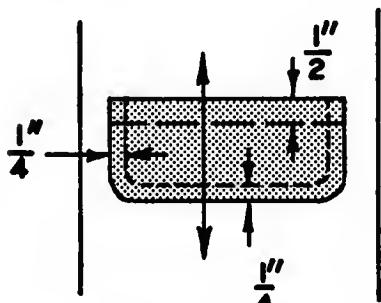

**Fig. 111.** Guide baste at each end of the mouthline.
- Guide-baste at each end of the mouthline at right angles to it (Fig. 111).